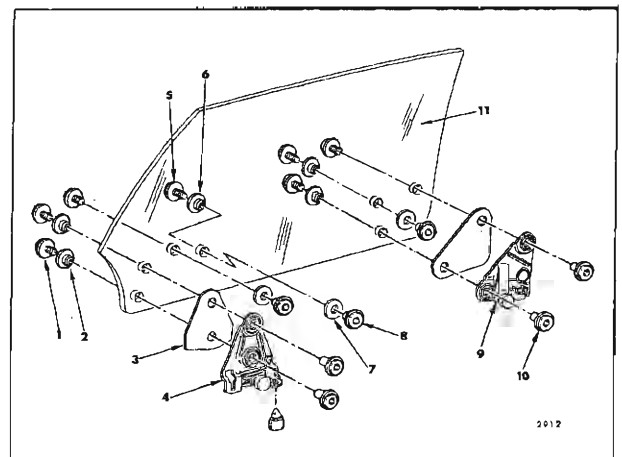
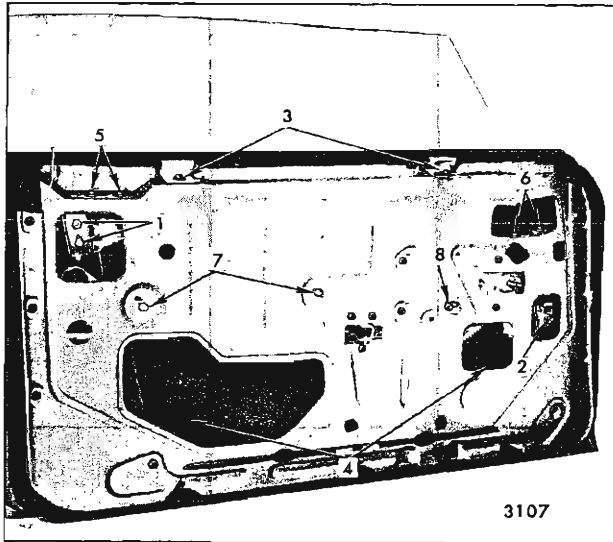

Fig. 6-96—Front Door Window Assembly - "F" Styles
Fig. 6-97—Door Window Removal and Adjustment - "F" Styles
Figure 6-96 is an exploded view of the window assembly and identifies the various components and their assembly sequence.
2. With window in full-up position, remove rear up-stop from rear guide ("1", Figure 6-97) and front up-stop from front lower sash channel ("2", Figure 6-97).
3. Loosen front and rear stabilizer strips ("3", Figure 6-97) and front and rear guide upper bolts ("5" and "6", Figure 6-97).
4. Lower window to full down position, remove lower sash channel cam to glass attaching nuts ("4", Figure 6-97). Remove window by lifting straight-up, tilting slightly inboard to disengage rollers from guides. Slide window forward and remove rear roller forward of stabilizer strip.
1. In and out adjustment of the glass is controlled by the in and out adjustment available at the top of the front and rear guide ("6" and "5", Figure 6-97) and the in and out position of the glass stabilizer strip assemblies "3".
2. Fore and aft adjustment of the window assembly is controlled by the position of the rear guide. The upper attaching locations in the inner panel ("5", Figure 6-97) are slotted to permit fore and aft adjustment of the guide. Because of the free floating roller in the window front sash channel cam (Figure 6-96), the front guide does not have to be adjusted during fore or aft window alignment.
3. Ease of window operation and window stability depend to a great extent on the adjustment of the window stabilizer strip assemblies at the beltline ("3", Figure 6-97). The stabilizing strips should contact the glass throughout the full cycle of the window. Due to slight variations in glass contour, however, in some cases the strip may lose contact with the glass halfway through the cycle. This is permissible provided it does not result in loose glass. Contact should be sufficient to stabilize glass, but not restrict ease of window operation.
4. A window that is rotated (cocked) in the window opening may be the result of an improperly adjusted inner panel cam ("7", Figure 6-97) or poorly adjusted up-travel stops ("1" or "2", Figure 6-97).
5. The up-travel of the window is determined by the adjustment of the front up-stop "2", rear up-stop "1" and window regulator sector gear stop ("8", Figure 6-97).